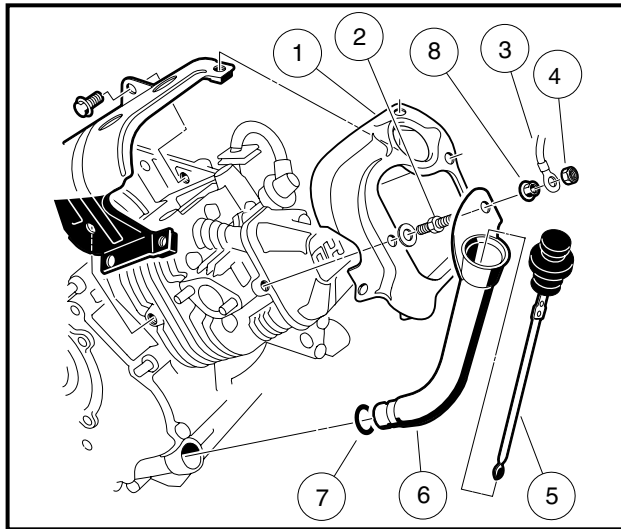

Figure 13-39 Oil Filler Tube and Ground Wire
2. Install lower, upper, and head shrouds (1) along with two-ended bolt (2) (**Figure 13-39, Page 13-22**). **See following NOTE.**
**NOTE:** The shorter end of the two-ended bolt (2) goes through washer and upper shroud.
To prevent leaks, apply a light coat of clean engine oil to the o-ring seal (7) before installation. Care should be taken during installation to avoid cutting or nicking the o-ring seal (**Figure 13-39, Page 13-22**).
3. Install oil filler tube (6) and O-Ring (7) into the large hole in the crankcase cover. Install the upper end of the oil filler tube (6) onto the two-ended bolt (2). Install flange nut (8) and tighten to 50 in-lb (5.7 N·m) (Figure 13-39, Page 13-22).
4. Connect the ground wire (3) to the two-ended bolt and install and tighten the nylon lock nut (4) to 50 in-lb (5.6 N·m). Insert the dip stick (5) (Figure 13-39, Page 13-22).